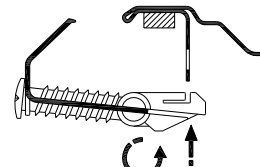

Fig 2.
10. Push the fixing clips perpendicular to the clip rail or lugs onto the underside of the sink rim (fig. 2). Whilst pushing the fixing clip to the rail rotate the fixing clip to attach it to the notches on the clip rail (fig 2).